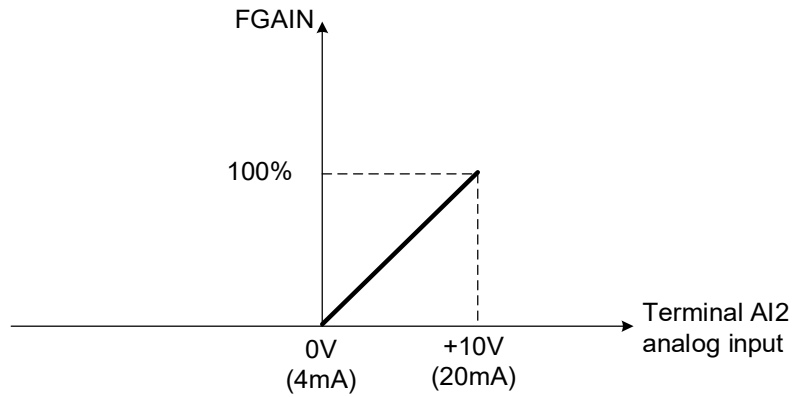

Figure 4.3.56 Frequency gain adjustment
(2) Reference frequency gain (FGAIN) (setting=1).
- Refer to Figure 4.3.56 on FGAIN adjustment.